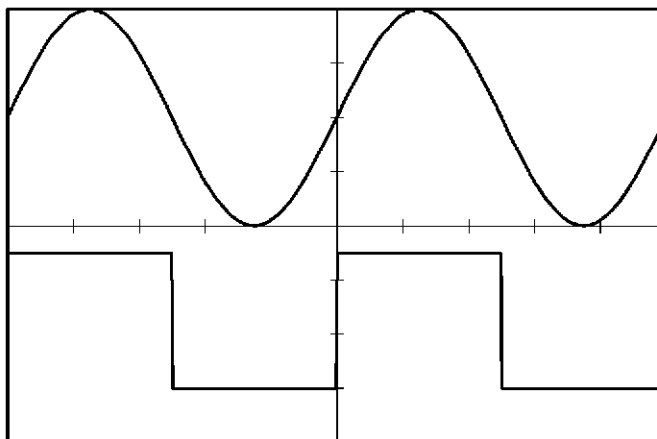

Figure 8-22 Reference Waveform for Sequence Marker, Positive
14. Verify that the marker that is high in the period in which the output signal is positive outputs as shown in Figure 8-22.